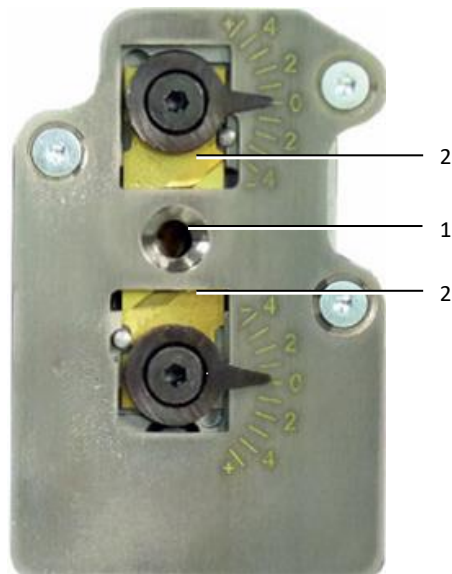

Fig. 24: Insulation stripping unit
- Clean the area around the hole (fig. 24, item 1) with a brush.
- Check the cutters (fig. 24, item 2). If required, replace the blades (see section 8.3 "Replacing the insulation stripping blade").